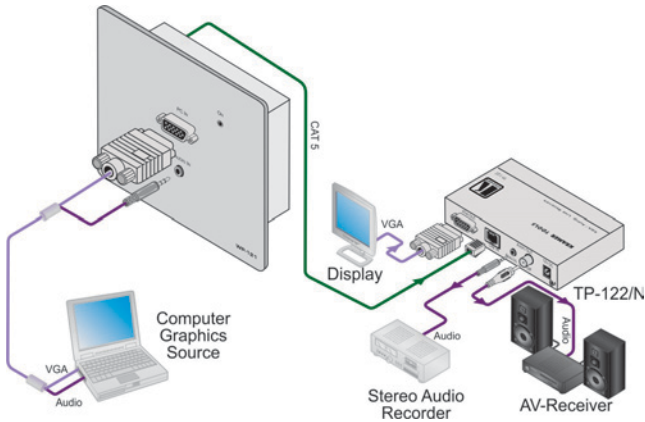

Figure 4: Installing and Connecting the WP-121
To install the **WP-121** as illustrated in the example in Figure 4:
To connect the **WP-121** as illustrated in the example in Figure 4:
4. Connect the 12V DC power adapter to the power terminal block (see Figure 4) on the **WP-121** and connect the adapter to the mains electricity.
3. Connect the 12V DC power adapter to the power terminal block (see Figure 4) on the **WP-121** and connect the adapter to the mains electricity.